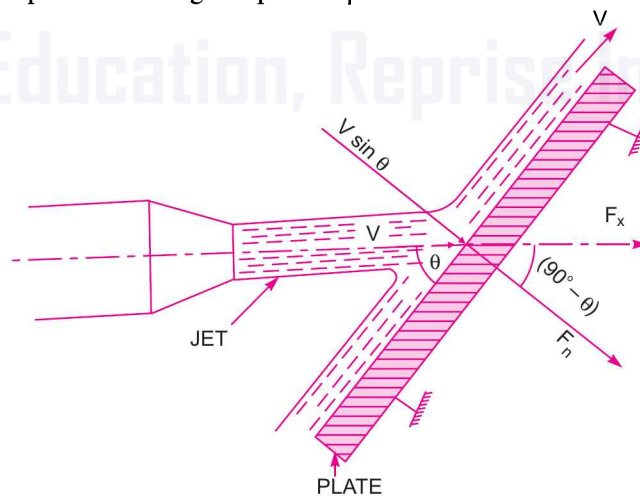

Fig. 17.2 Jet striking stationary inclined plate.
**Note.** In equation (17.1), if the value of density ( $\rho$ ) is taken in S.I. units (*i.e.*,  $\text{kg/m}^3$ ), the force ( $F_x$ ) will be in Newton (N). The value of  $\rho$  for water in S.I. units is equal to  $1000 \text{ kg/m}^3$ .
**17.2.1 Force Exerted by a Jet on Stationary Inclined Flat Plate.** Let a jet of water, coming out from the nozzle, strikes an inclined flat plate as shown in Fig. 17.2.